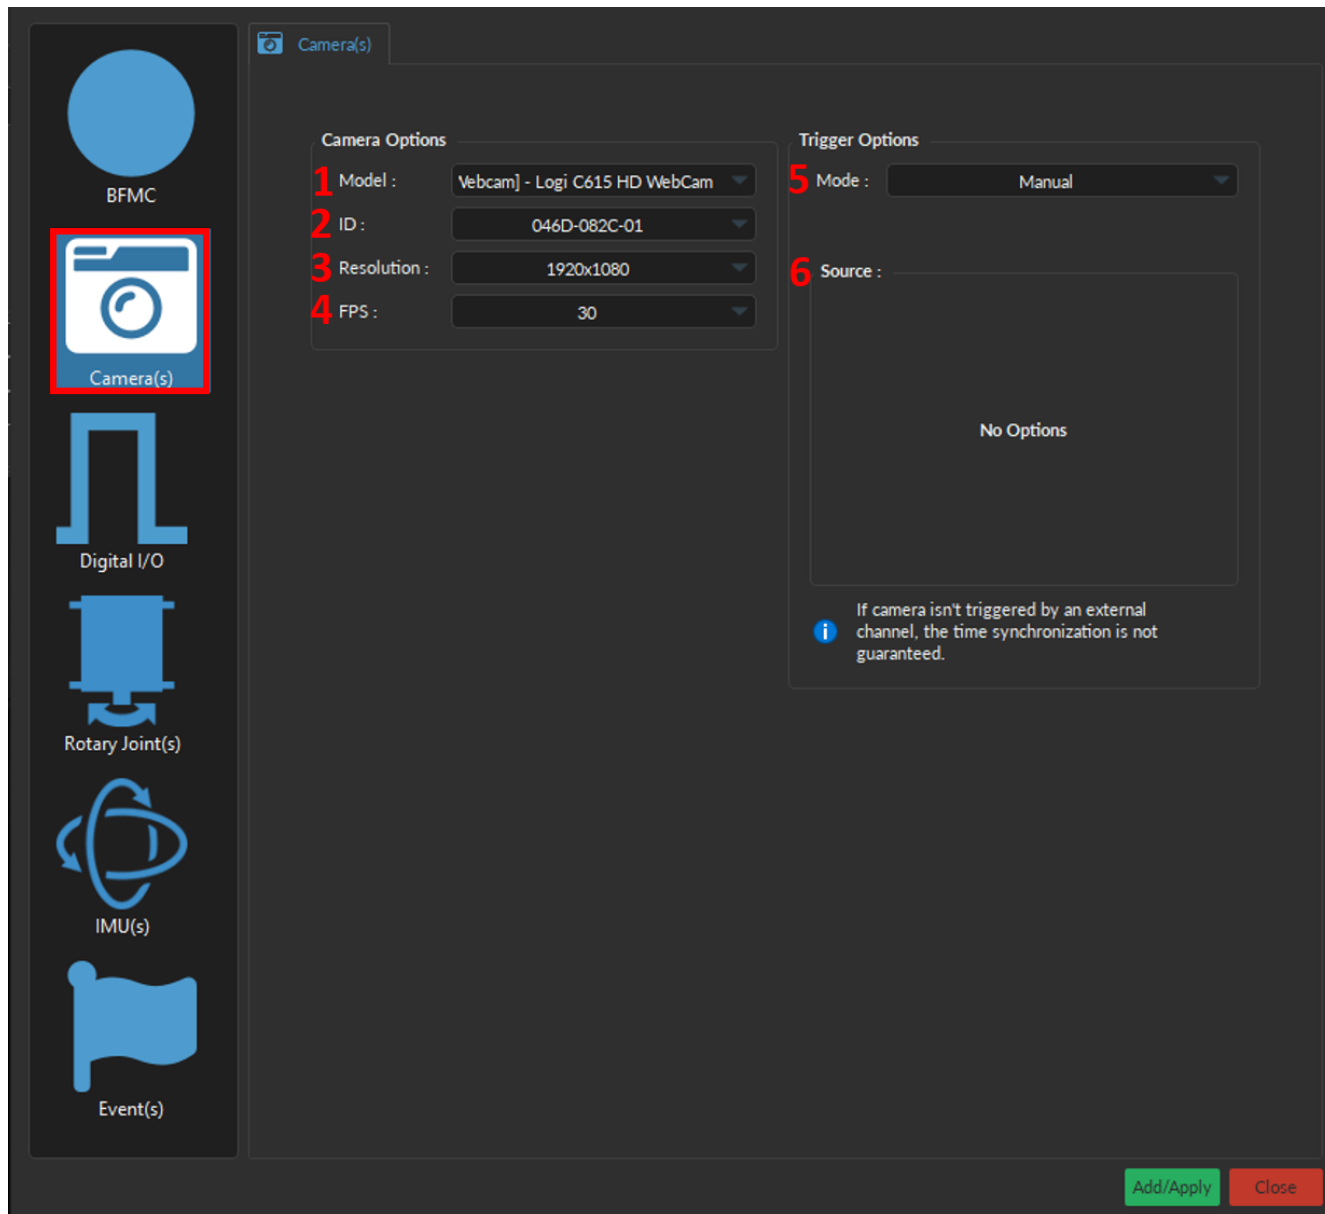
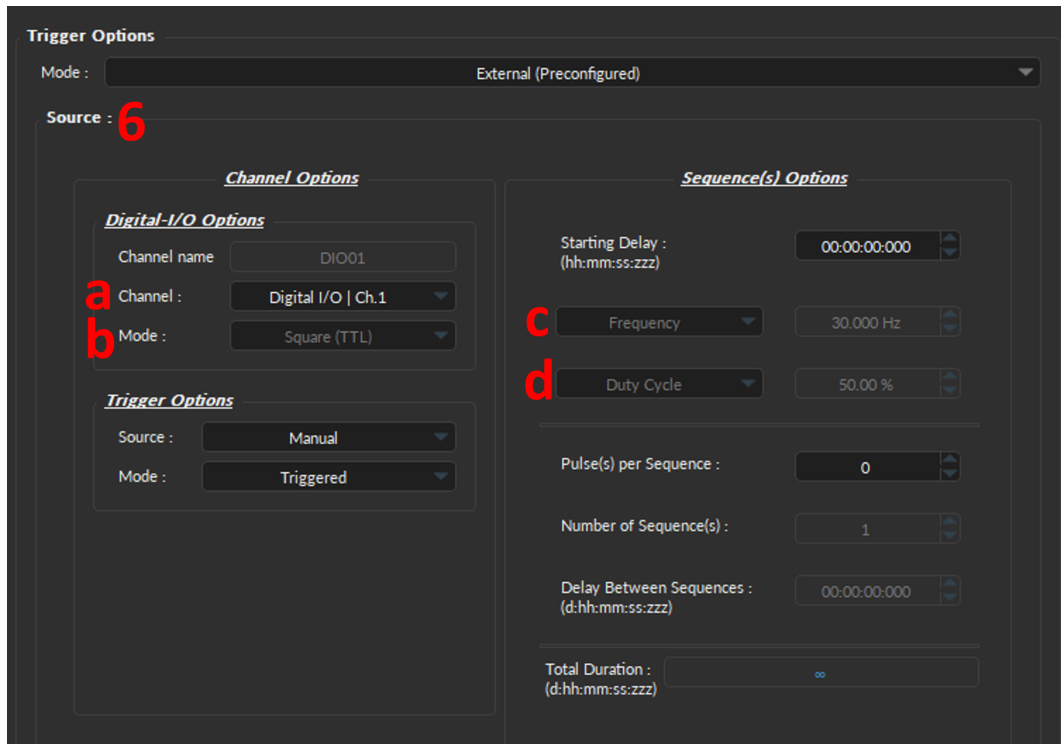

Figure 10.31: Channel(s) configuration window, Camera(s)
Figure 10.33: Channel(s) configuration window, Camera - External (Preconfigured)
1. The **Model** (Fig. 10.31, 1) allows you to select the camera of choice based on the type of camera.
2. **ID** drop-down list (Fig. 10.31, 2) is used to select a camera based on its unique ID. The ID is beneficial when multiple cameras of the same model are required for the experiment.
- The **Resolution** (Fig. 10.31, 3) is used to set the resolution of the image. The large the number of pixels used for width x height, the better the resolution. Currently, image size can ranges between 160x120 to 1920x1080 pixels.
- The **FPS** (Fig. 10.31, 4) is used to specify the frame rate of the camera (i.e. the number of images displayed per second). FPS can be any value between 5 to 30 for web cameras and up to 60 FPS for the *Doric Behavior Camera*.
- The **Mode** (Fig. 10.31, 5) sets the type of trigger that will control the camera. Depending on the type of camera, at most three modes are available:
- The **Source** (Fig. 10.31, 6 & Fig. 10.33) is only used for the **External (Preconfigured)** mode, and displays the **Digital I/O** channel with the preconfigured parameters that will be created at the same time as the **Camera Channel** (Fig. 10.33). For a detailed description of each Digital I/O parameter see Section 10.4.2. Briefly, key parameters include:
- a) The **Channel** (Fig. 10.33, a) corresponds to the physical Digital I/O channel number on the BBC300 that is connected to the trigger cable of the *Doric Behavior Camera*.
- b) The **Mode** (Fig. 10.33, b) is by default set to the *Square (TTL)* which provides the external trigger signal to the camera. This parameter cannot be changed.
- c) The **Frequency** (Fig. 10.33, c) corresponds to the **FPS** set in the **Camera Options**. Changing the **FPS** will automatically change the **Frequency** in the **Sequence(s) Options**.
- d) The **Duty Cycle** (Fig. 10.33, d) is by default 50%. The frame will be taken at the start of each square pulse.